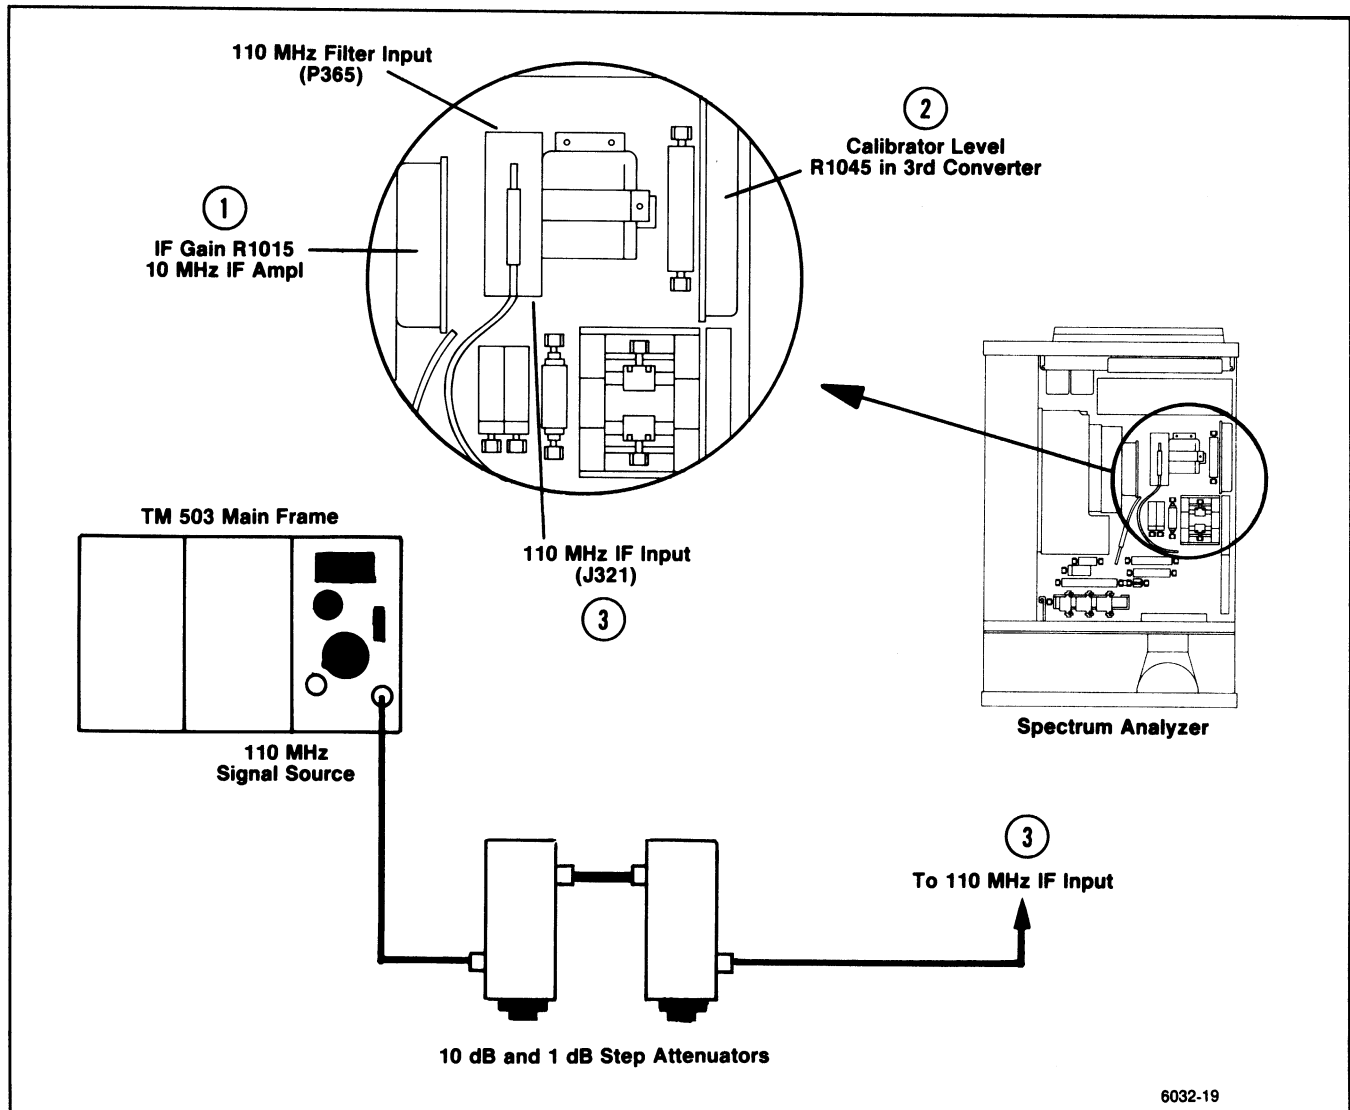

Figure 5-21. IF gain test setup, and adjustment and connector locations.
f. Adjust Cal Level R1041, in the 3rd converter (#2 in Figure 5-21) for no displacement between the CAL OUT signal and the reference (VIEW B and SAVE A displays).
a. Test equipment setup is shown in Figure 5-21. Set the RESOLUTION BANDWIDTH to 100 kHz, REF LEVEL to  $-20$  dBm, and apply a  $-21.5$  dBm, 110 MHz signal, through step attenuators, to the input (J365) of the 110 MHz filter.
d. Set the step attenuators for 21 dB attenuation and apply the 110 MHz signal to the input (J321) of the 110 MHz IF amplifier (Figure 5-21).